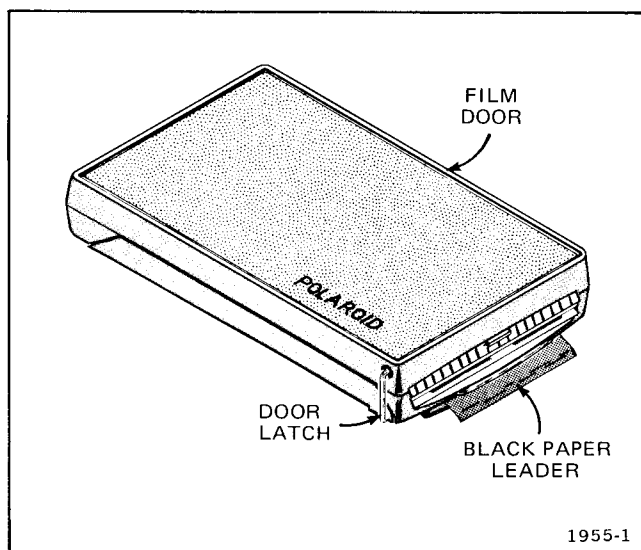

Fig. 2-3. Pack film back.
1. To open the camera back, swing the door latch away from the camera back (Fig. 2-3) and open the film door.